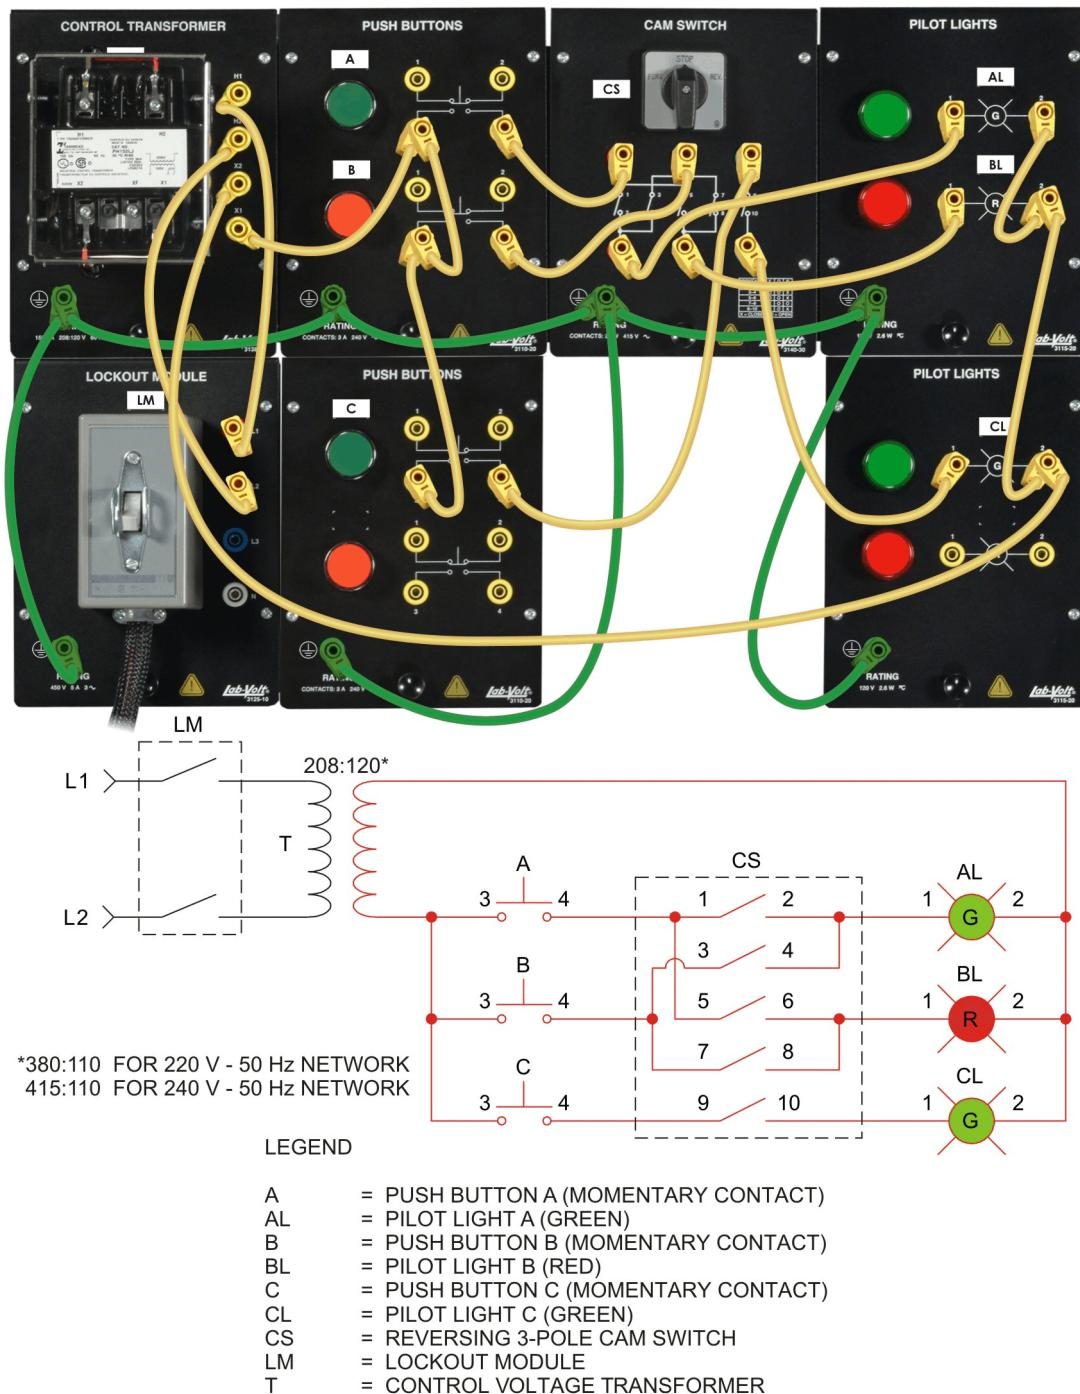

Figure 1-12. Cam Switch reversing circuit.
16. Connect the circuit shown in Figure 1-12.